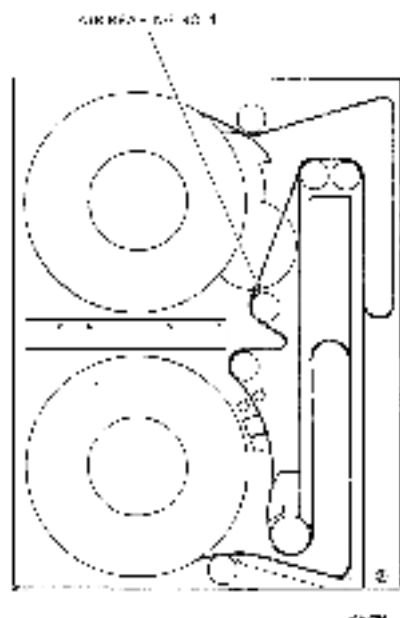

Figure 3-14 Base Assembly, Front Components
9. Hold the tape against air bearing 4 (Figure 3-14) with your finger and manually rotate the take-up reel counterclockwise to form a loop in the take-up buffer or return. Continue rotating the take-up reel until the loop is in the middle of the park zone and then tape the reel as in step 3. Release the tape at air bearing 4.